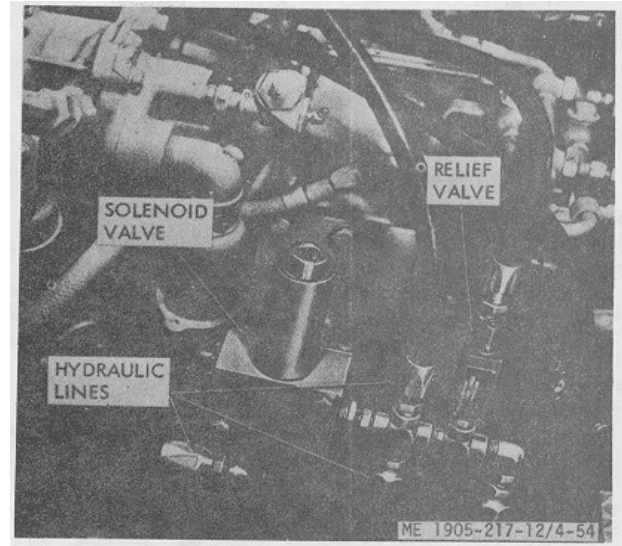

Figure 4-54. Hydraulic starting solenoid valve, hull numbers 8500 thru 8519.
b. *Removal (fig. 4-54).*
- (1) Close accumulator valves.
- (2) Relieve pressure in lines.
- (3) Remove and tag electrical connections.
- (4) Remove hydraulic lines from solenoid